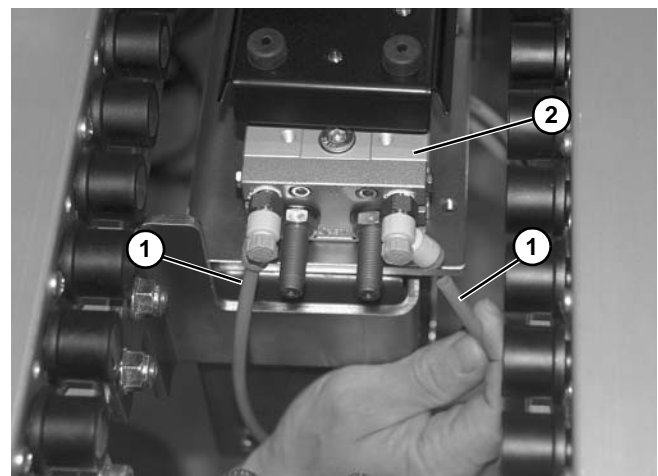

Figure 120
4. Disconnect both hoses (Figure 120, item 1) from fittings on rotate cylinder (Figure 120, item 2).